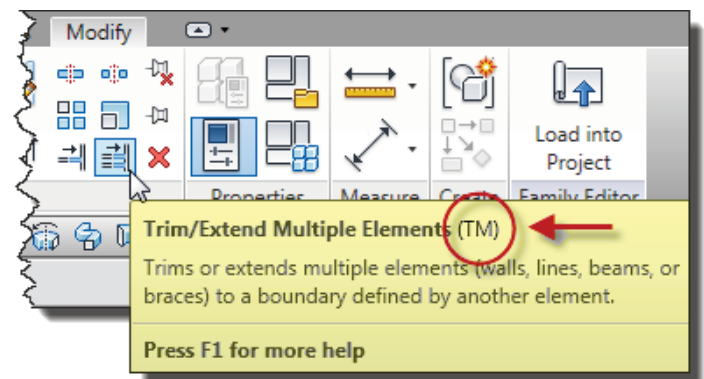

Figure 11 - Tooltips
6. If you forget a keyboard shortcut, just hover on top of the tool icon in the Ribbon and the Tooltips window will appear. The keyboard shortcut assigned will be right next to the tool name as shown in Figure 11.